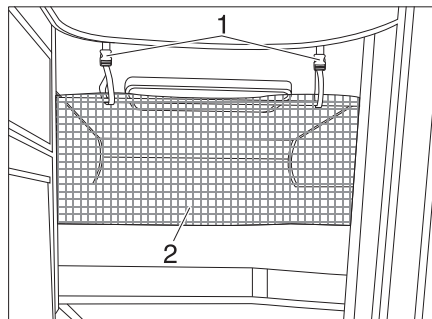

Fig. 157 Safety net
- Fasten the retaining straps (Fig. 157,1) to the holders on the ceiling (Fig. 157,2).